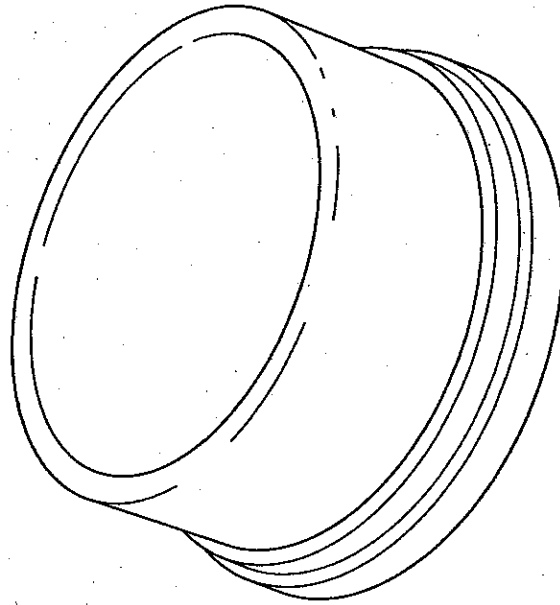

Fig 29 Light duty plastic cap, general view
20.2 A light duty plastic cap (Fig 29) is fitted to each connector by the manufacturer prior to despatch. The cap provides protection against damage during transit only and is incapable of providing protection against ingress of moisture, oil or dust.